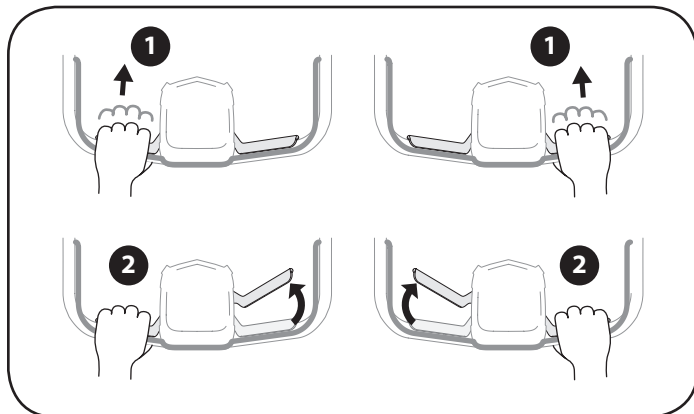

Figure 18
**NOTE:** To disengage the front wheel drive (left lever) or rear wheel drive (right lever) while in four wheel drive perform the following. See Figure 18: